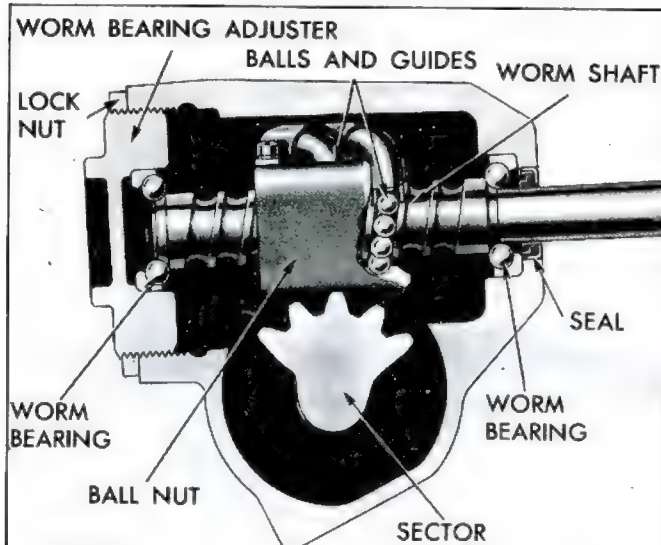

Fig. 1—Steering Gear Worm and Ball Nut Circuits
The regular production steering gear (fig. 1) is the re-circulating ball type.
4. To adjust the worm bearings (See Figure 1): loosen the worm bearing adjuster locknut and turn worm bearing adjuster down until there is no perceptible end play in worm. Check the pull at the torque wrench, readjusting the adjuster nut as necessary to obtain proper pull. Tighten the locknut and recheck pull. If the gear feels "lumpy" after worm bearing adjustment, the bearings are probably damaged and the gear should be removed and disassembled for replacement of the damaged parts. See "Service Operations".